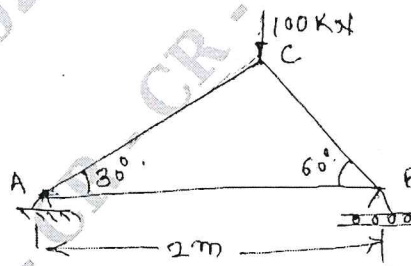

Fig.Q6(b)
b. Determine horizontal and vertical displacement components of joint 'C' of the truss loaded as shown in Fig.Q6(b). Take  $AE = 2 \times 10^4$  kN.